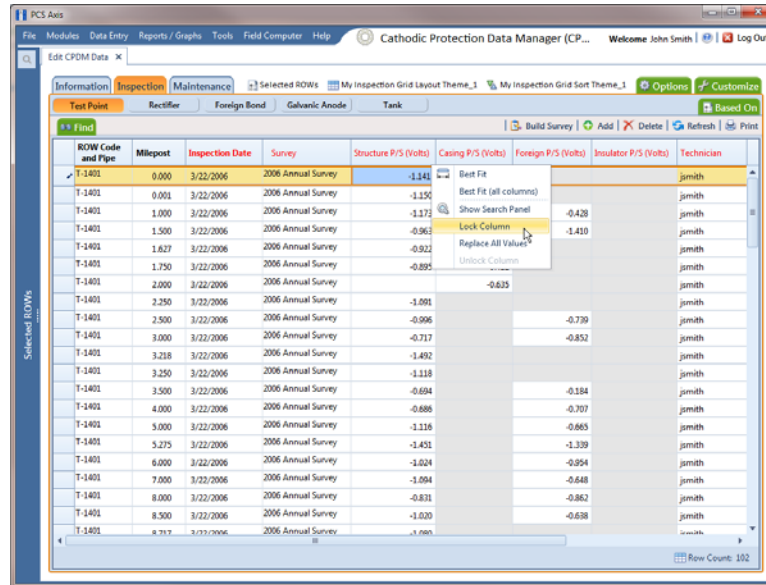

Figure 7-2. Lock Grid Column
- Right-click a grid column and then select **Lock Column** in the shortcut menu that opens (Figure 7-2, page 213).